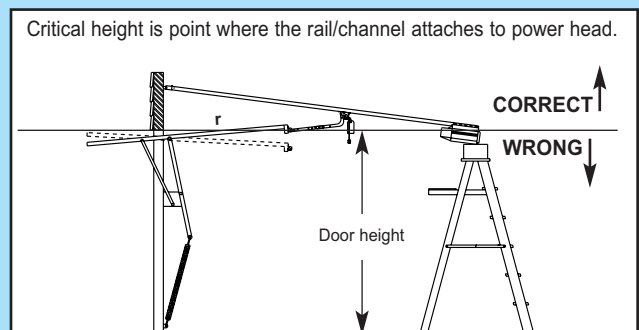

Fig. 2-15
8. Establish power head mounting height (Fig. 2-15).